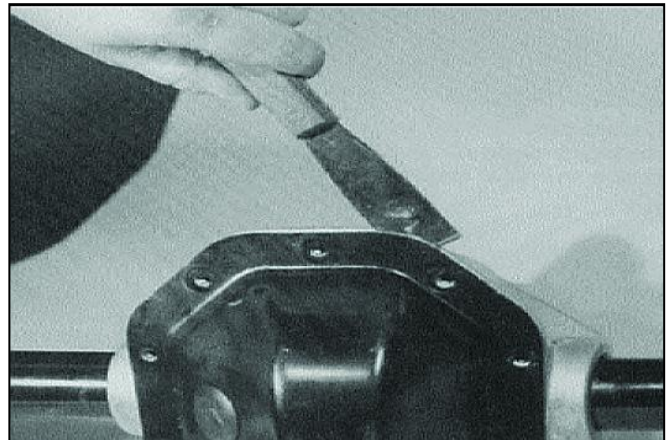

Figure 7-5
6. See Figure 7-5. Position the axle housing (1) over a drain pan. Using a putty knife, separate the cover plate from the housing. Use care to not damage the housing sealing surfaces or to deform the cover plate.